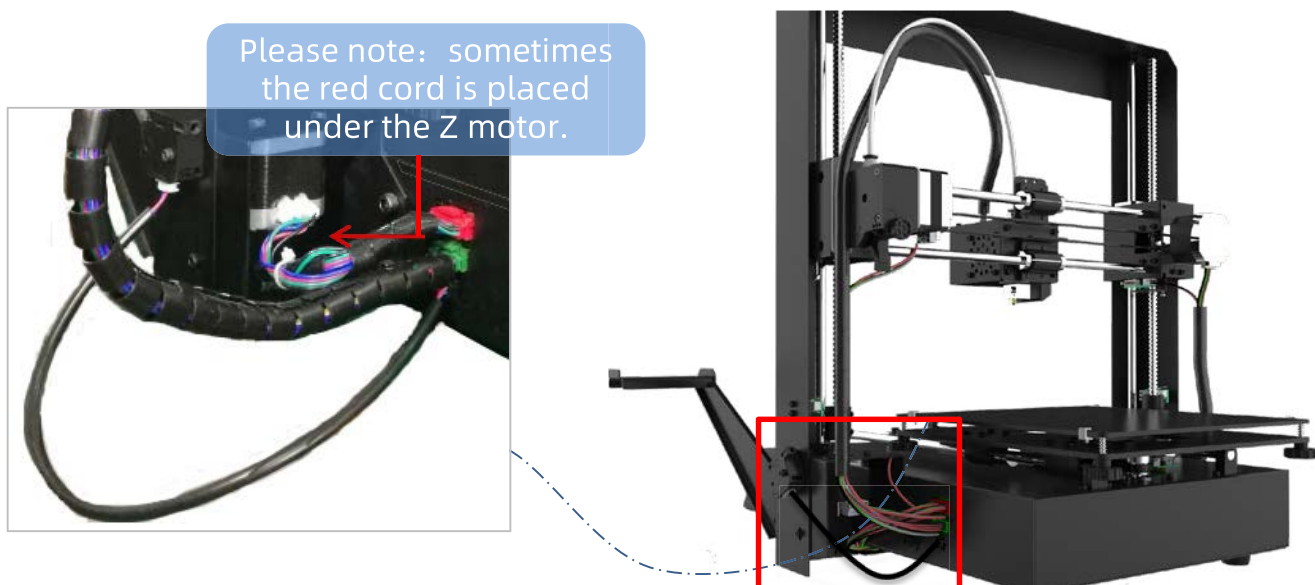

Figure 4
(2) There are 3 ports with different color (Red/Green/Black) at the bottom right side of the base, and there are 3 different color cable connectors respectively. Accordingly, insert those connectors to the ports by the same color, as shown in **Fig.4**.